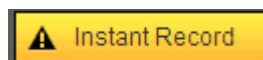

Figure 7-5
- Section 4: Instant record button. Click it, the button becomes yellow and system begins manual record. See Figure 7-5. Click it again, system restores previous record mode.